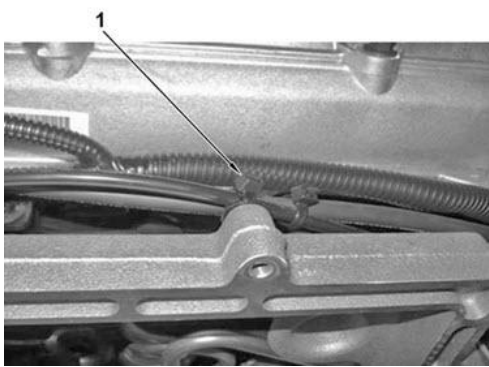

**Figure 8**
11. Remove 2 fir-tree type push pin connectors that secure the air line to ECM bracket (Figure 8, Item 1).